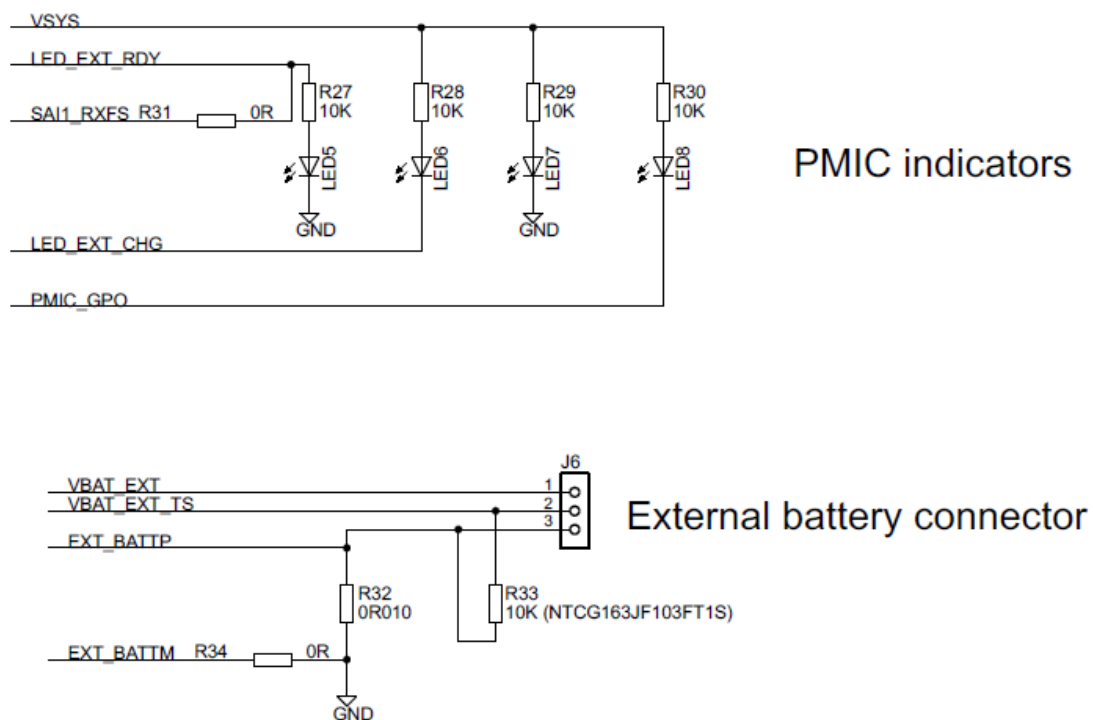

Figure 7 – Battery Integration to iMX7 Dual uCOM Board
- Connect each side of the 10 milliohm resistor to EXT\_BATTP/EXT\_BATTM. Also connect an NTC termistor between EXT\_BATTP and VBAT\_EXT\_TS. See Figure 7 for details.
- Optionally connect a LED with series with a 10K resistor between VSYS and LED\_EXT\_CHG. See Figure 7 for details.